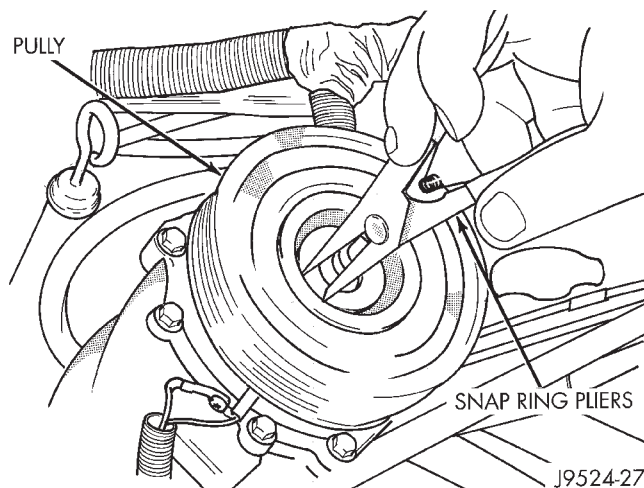

Fig. 20 External Snap Ring Remove
(8) Remove the compressor shaft key and the clutch shims.
(9) Remove the external front housing snap ring with snap ring pliers (Fig. 20).